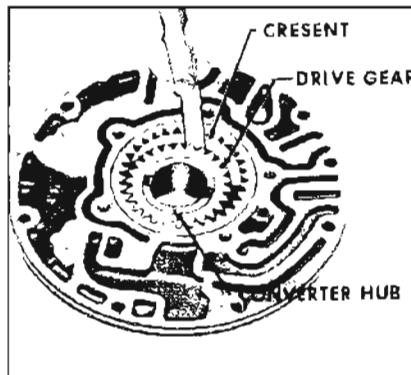

Figure 5-200
c. Install pump on converter hub. Check clearance between oil pump drive gear and crescent. The clearance allowed is .004/.009. See Figure 5-200.